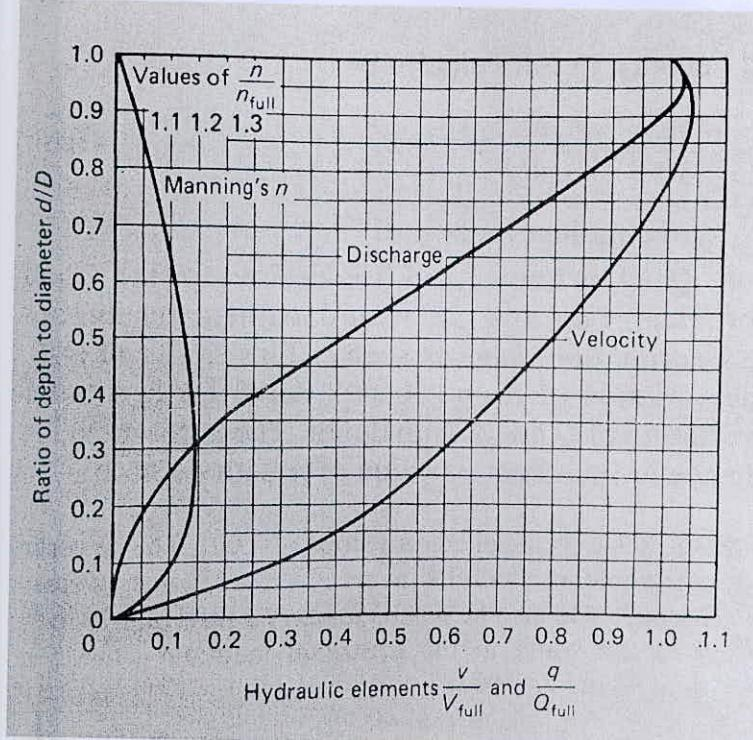

Figure 2: For Question 6 (b)
[Note: Hydraulic element diagram provided in **Figure 2**]
- (b) An overflow spillway shown in Figure 2 is 40.0m high. If the design energy head is 2.5m over the spillway, find the sequent depths and energy loss in a hydraulic jump formed on a horizontal apron at the toe of the spillway. Neglect energy loss due to flow over the spillway face and assume $C_d = 0.738$. (16)
Figure 2 for Question 3(b)